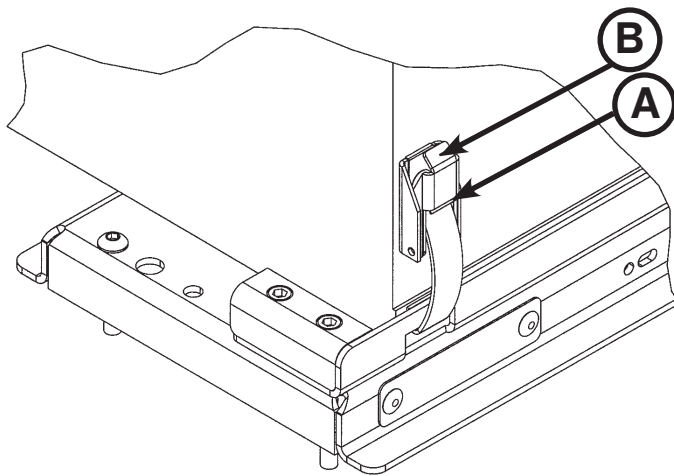

Figure 27.1: Airborne™ Side By Side Incubator
1. Push down on latch tab (A) to release latch tab (B) as shown in Figure 27.1.
2. Pull down on latch tab (B) and open each of the latches on the four corners of the incubator.
4. Insert each latch into its slot on the adaptor. Push up on latch (B) to secure the latches. Verify that all four latches are securely fastened.